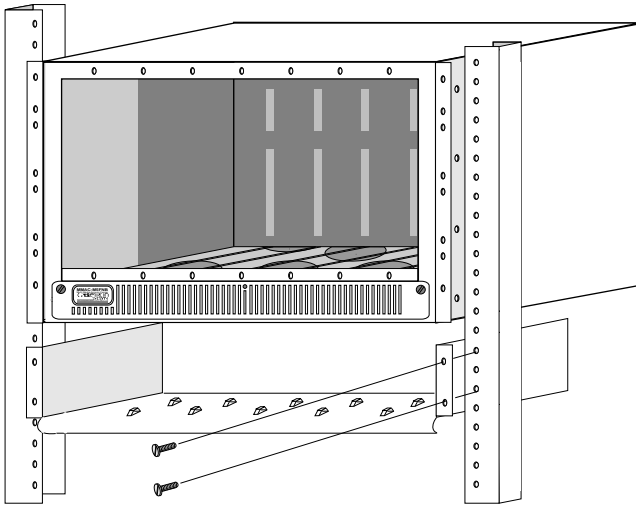

Figure 3-2. Cable Tie Tray Installation
1. Slide the cable tie tray (Figure 3-2, following page) into the rack.